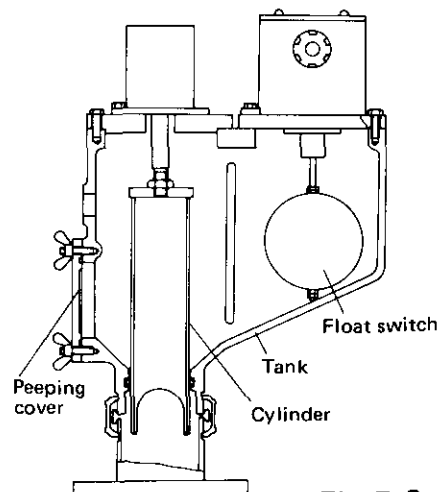

Fig. 7-6
2.8.1 Leakage detector (Refer to Fig. 7-6)